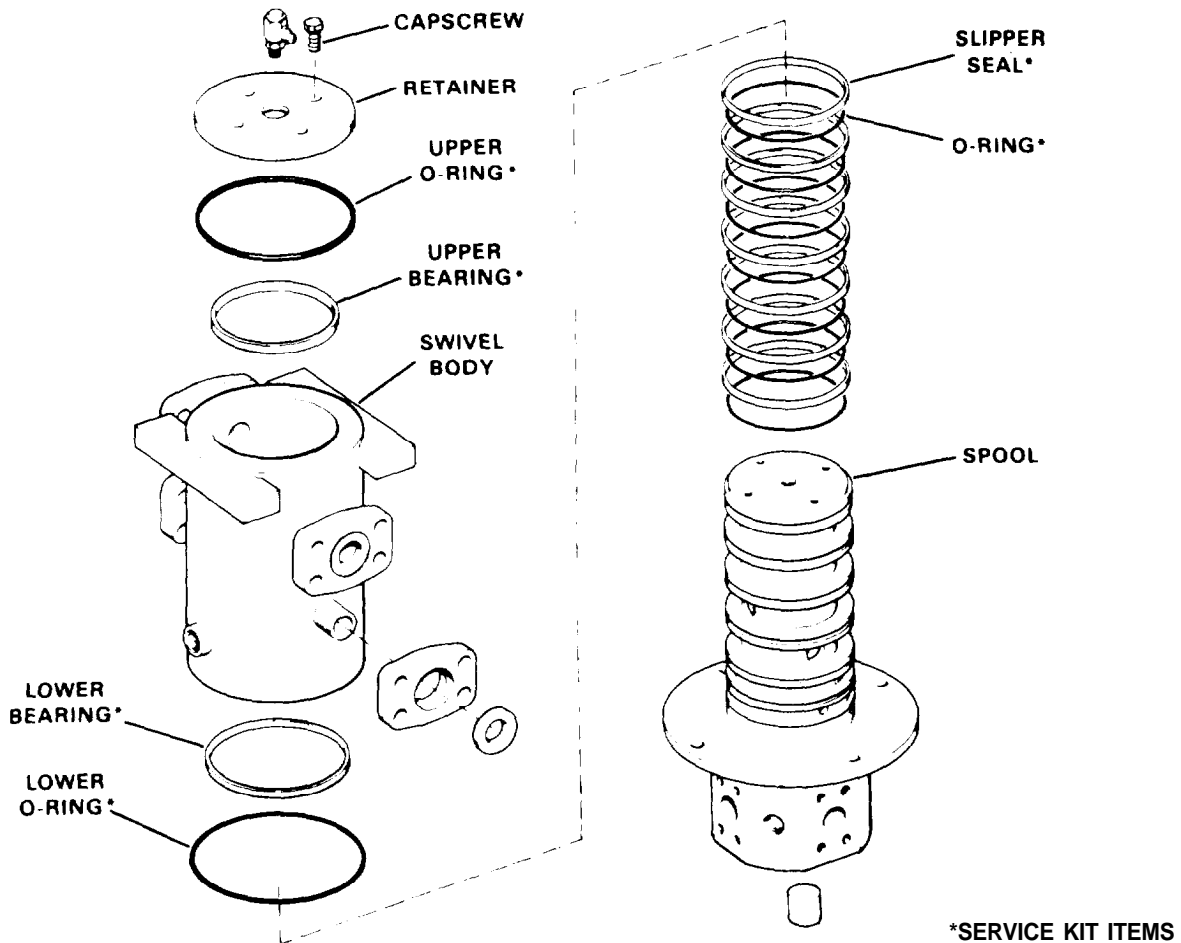

Figure 5D-8. Swivel (45Z453)
**INSTALLATION.** To install a new or repaired swivel, proceed as follows (see Figure 5D-7):